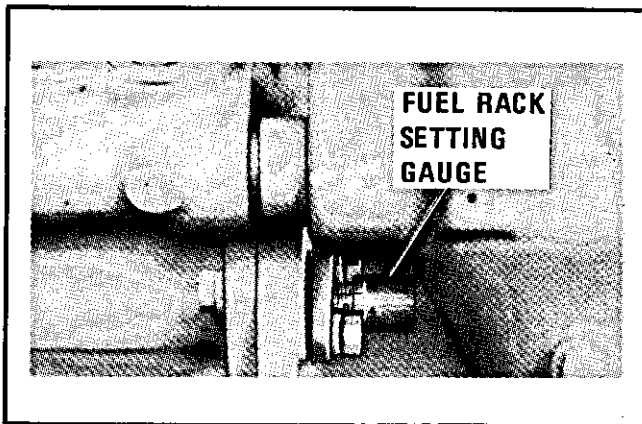

Figure 2-10. Fuel rack setting gage
6. Use fuel rack setting gage when installing fuel rack (26). Position fuel rack so that gage indicates 0.000 inch (see figure 2-10).
8. Tighten each pump retaining bushing (17) to torque of 140 to 160 foot pounds.
9. After injection pump assemblies are installed, check fuel rack setting. With fuel rack (26) at extreme fuel position, rack setting gage should indicate +0.312 inch minimum. If reading is less than +0.312 inch, remove injection pump assemblies, position fuel rack to 0.000 inch, and re-install pumps. Recheck extreme "fuel on" rack position (reference figure 2-10).
1. Install fuel rack setting gage (figure 2-10). Adjust gage to +0.085 inch.